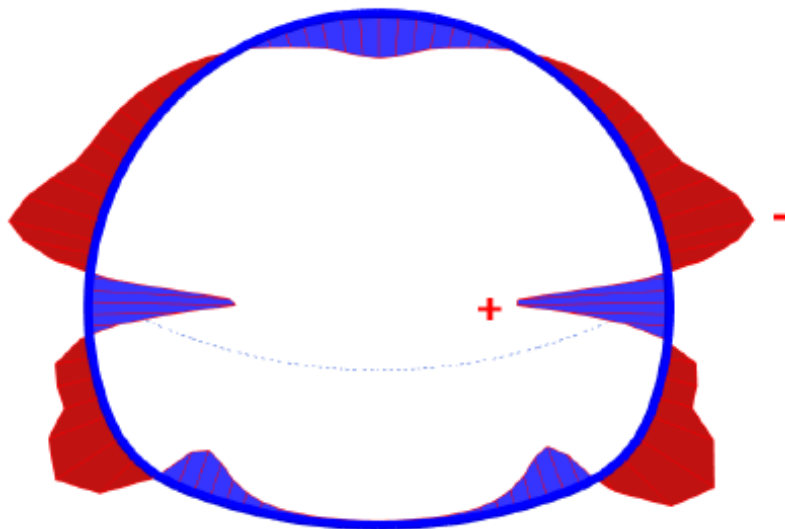

Figure 78: Resulting bending moments in the NATM tunnel
3. From the **Forces** menu select the **Bending moment M** option. The result, scaled by a factor of 0.5 is displayed in Figure 78 (on page 101).